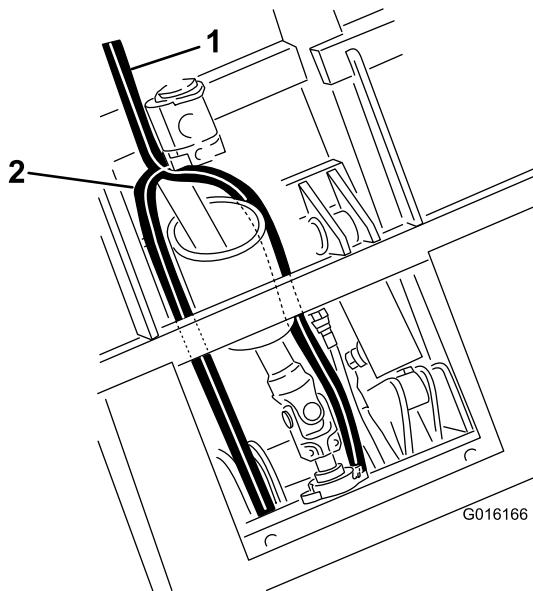

Figure 111
- Route the tank hose under the lift cylinder and between the cylinder mounting brackets to the valve (Figure 111).
- Route the pressure hose along side the PTO shaft to the valve (Figure 111).